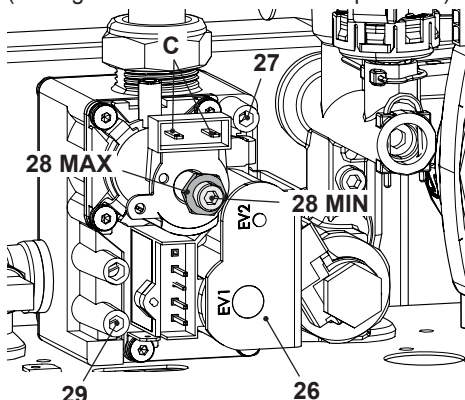

Figure 7.8
- With the boiler turned off (out of service), check the supply pressure using the tapping point 29 in Figure 7.8 and compare the value read with those shown in the Gas supply pressure table in section "Technical data M290F.24CM" on page 20, "Technical data M290F.28CM" on page 22 and "Technical data M290F.32CM" on page 24.
- Fully close the tapping point 29 in Figure 7.8.
- Open the tapping point 27 in Figure 7.8 and connect a pressure gauge.
Compare the pressure value measured with that shown in the "Maximum gas pressure at burner" tables. To calibrate the pressure at the burner turn the large brass hexagonal nut of the modulating operator 28 MAX in Figure 7.8 (turning it clockwise increases the pressure).
- Compare the pressure value measured with that shown in the "Minimum gas pressure at burner" tables. To calibrate the pressure at the boiler turn the plastic screws (28 MIN in Figure 7.8) keeping the large brass hexagonal nut (28 MAX in Figure 7.8) of the modulating operator stationary (turning it clockwise increases the pressure).
IMPORTANT: Each time after measuring the gas pressure, properly close all tapping points that were used (27 and 29 in (Figure 7.8). After each gas adjustment, the valve adjustment components must be sealed.
IMPORTANT: Each time after measuring the gas pressure, properly close all tapping points that were used (27 and 29 in (Figure 7.8).